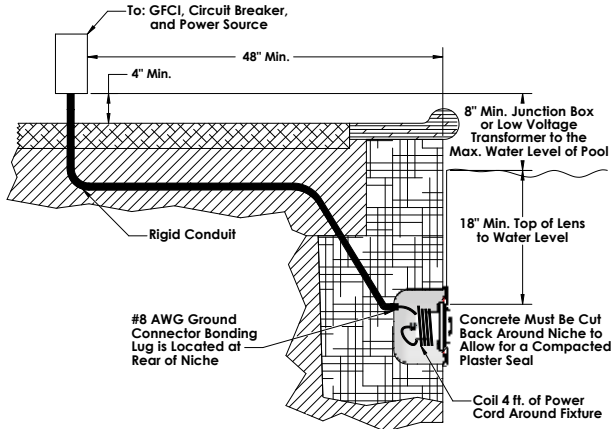

Figure 1.
- A junction box or low voltage transformer is located at least 8 inches above the maximum pool water level and at least 48 inches from the pool edge; reference Figure 1.
- Proper wet niche installation with the top edge of the underwater light's lens at least 18 inches below the surface of the water in the pool and not more than 20" in Canada; reference Figure 1.
- Proper electrical wet niche bonding and grounding using the #8 AWG ground connector at the rear of the niche; reference Figure 1.
1. Feed the fixture cord through the conduit to the junction box. Be sure to leave at least four (4) feet of cord at base of the fixture to coil around the light to ensure ease of servicing once the pool is filled; reference Figure 1.
2. At the junction box, cut the cord. Be sure to leave at least six (6) inches of cord for making connections.
3. Carefully strip the outer cord jacket to expose six (6) inches of the underlying three insulated wires.
4. Connect these three (3) wires to their corresponding junction box circuit wires and secure the junction box cover in place.
5. Using the stainless steel pilot screw provided, install the PureWhite light assembly into the niche, carefully tightening the pilot screw. (reference Figure 1)